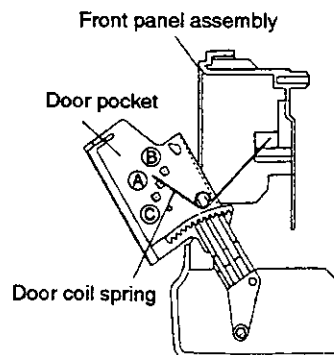
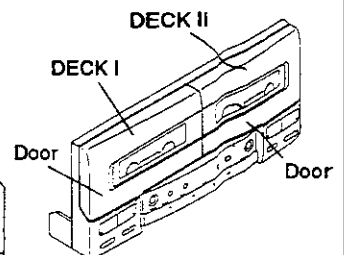

Fig. 7-2
Fig. 7-3
1. Mount the door coil spring on the position ④ as shown in Fig. 7-2, and then upright the front panel assembly as shown in Fig. 7-3.
- When DECK I door moves more slowly than DECK II door, change the position of the DECK I door coil spring from ④ to ⑤.
- When DECK I door moves faster than DECK II door, change the position of the DECK II door coil spring from ④ to ⑤.